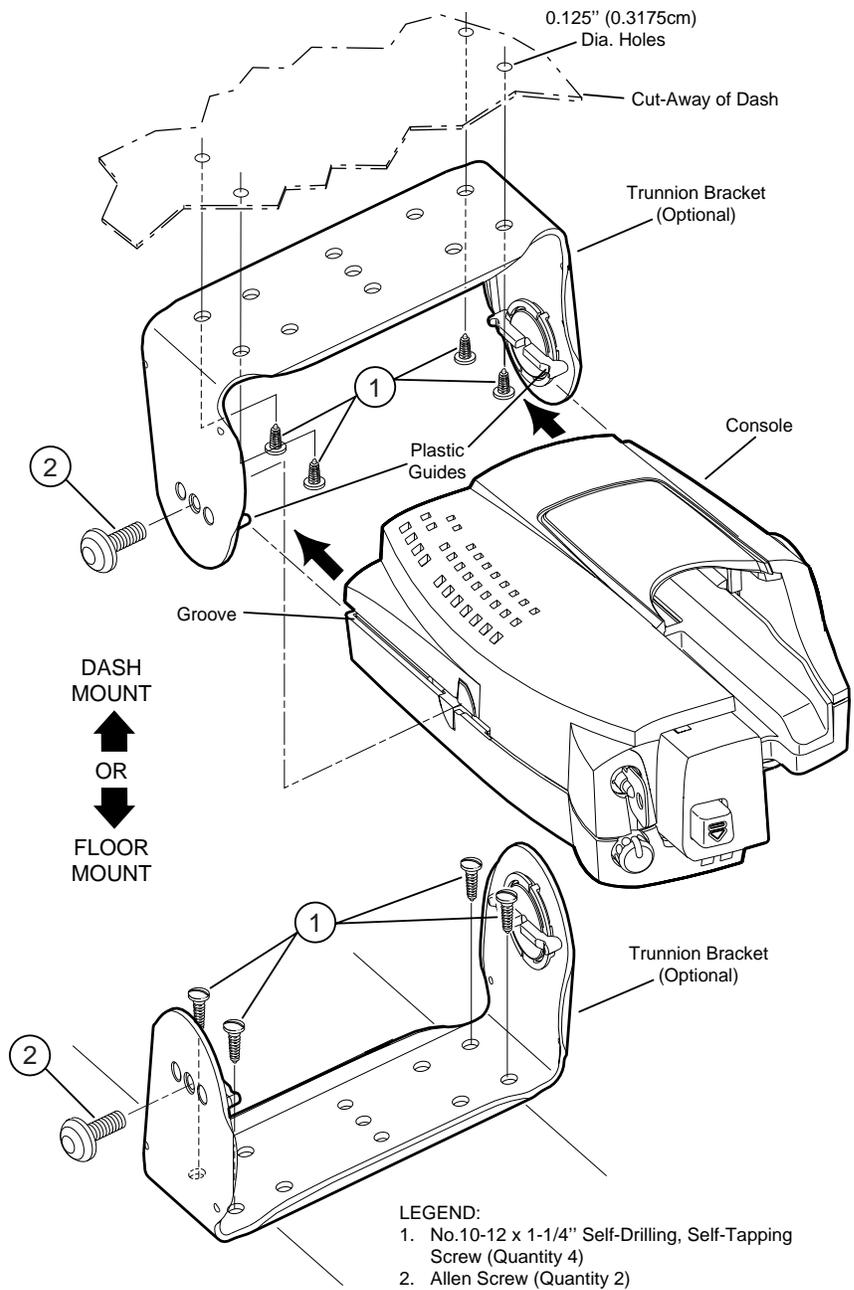

Figure 1 Console Installation Detail
Referring to Figure 1, install the console using the following procedure, or modify the procedure as necessary to conform to the vehicle type.
Using the optional trunnion ("U") bracket as a template, drill the mounting holes and mount the bracket with the hardware supplied (see Figure 1).
2. Ensure that the plastic guides of the trunnion are aligned (horizontally) with the corresponding grooves of the console (see Figure 1). Slide the XTVA console into the plastic guides until it reaches the mechanical stop. Verify that the holes in the trunnion bracket are aligned with the holes on the XTVA chassis.